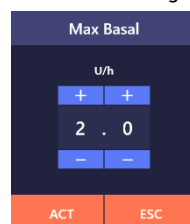

Figure 4.2
(1) Click "Max Basal" to open the setting interface (as shown in Figure 4.2). Click "+" or "-" to set the max basal.